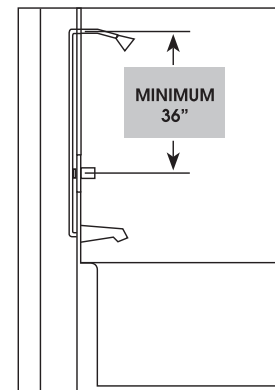

FIG. 4
3. For TUB & SHOWER installations, 36" MUST be allowed between valve and shower head to prevent stacking. SEE FIG. 4